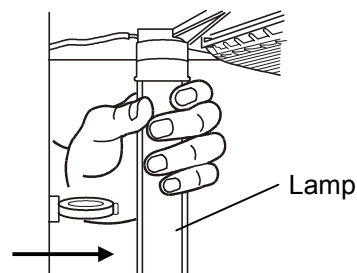

Fig. 1
1. Remove the tray fixture under the evaporating tray by unscrewing 4 screws and the evaporating tray is free. (Fig. 1)
4. Pull the lamp toward the rear together with the cover as shown in Fig. 1, together with the wiring.